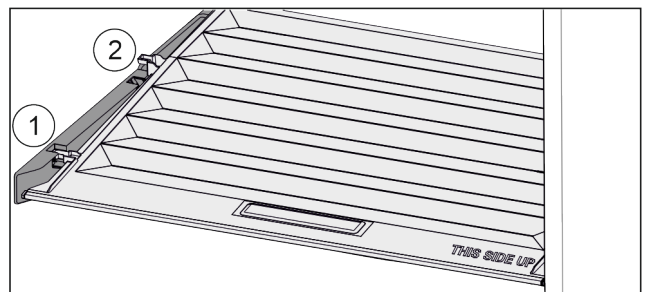

Fig. 94
- ▶ Pull the lid up at the front to the opening in the retaining parts Fig. 94 (1).
- ▶ Lift from the back and pull it up and out Fig. 94 (2).